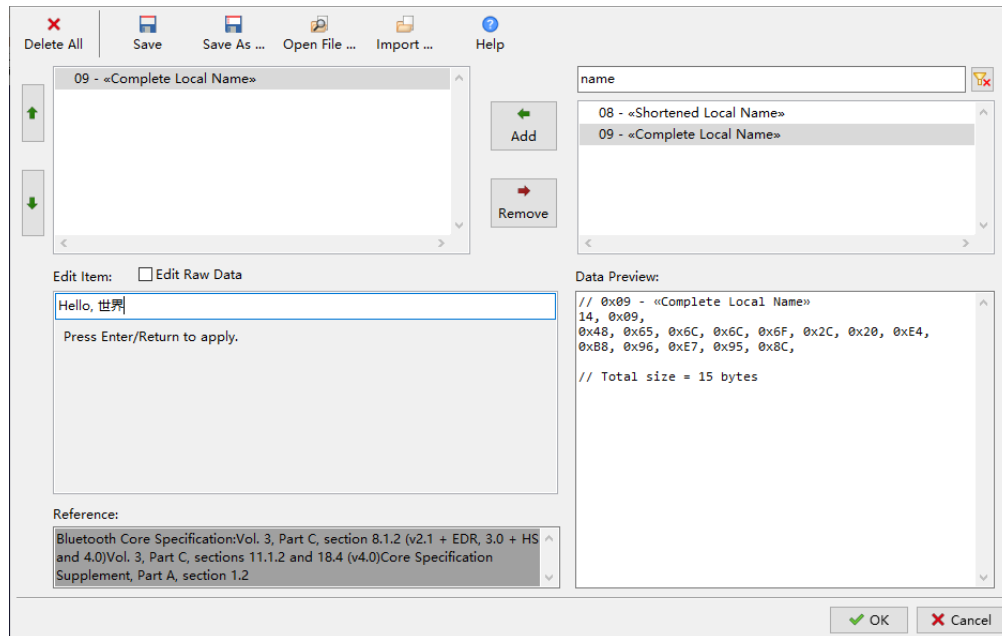

Figure 2.6: Edit Advertising Data
Click Setup Advertising Data button, which will bring up the advertising data editor (Figure 2.6). In the editor, type name to quickly search for the GAP advertising item 09 - «Complete Local Name», and click Add to add it into our device’s advertising data.